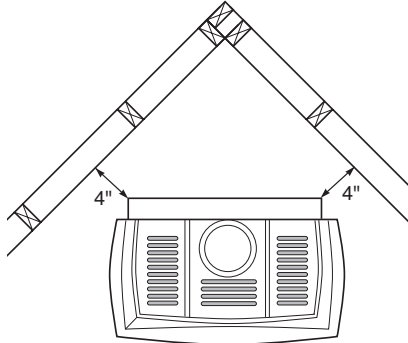

Figure 4 - Clearance for Corner Installation
3. Proper clearances must be maintained, see Figure 3 below and Figure 4 on page 5.